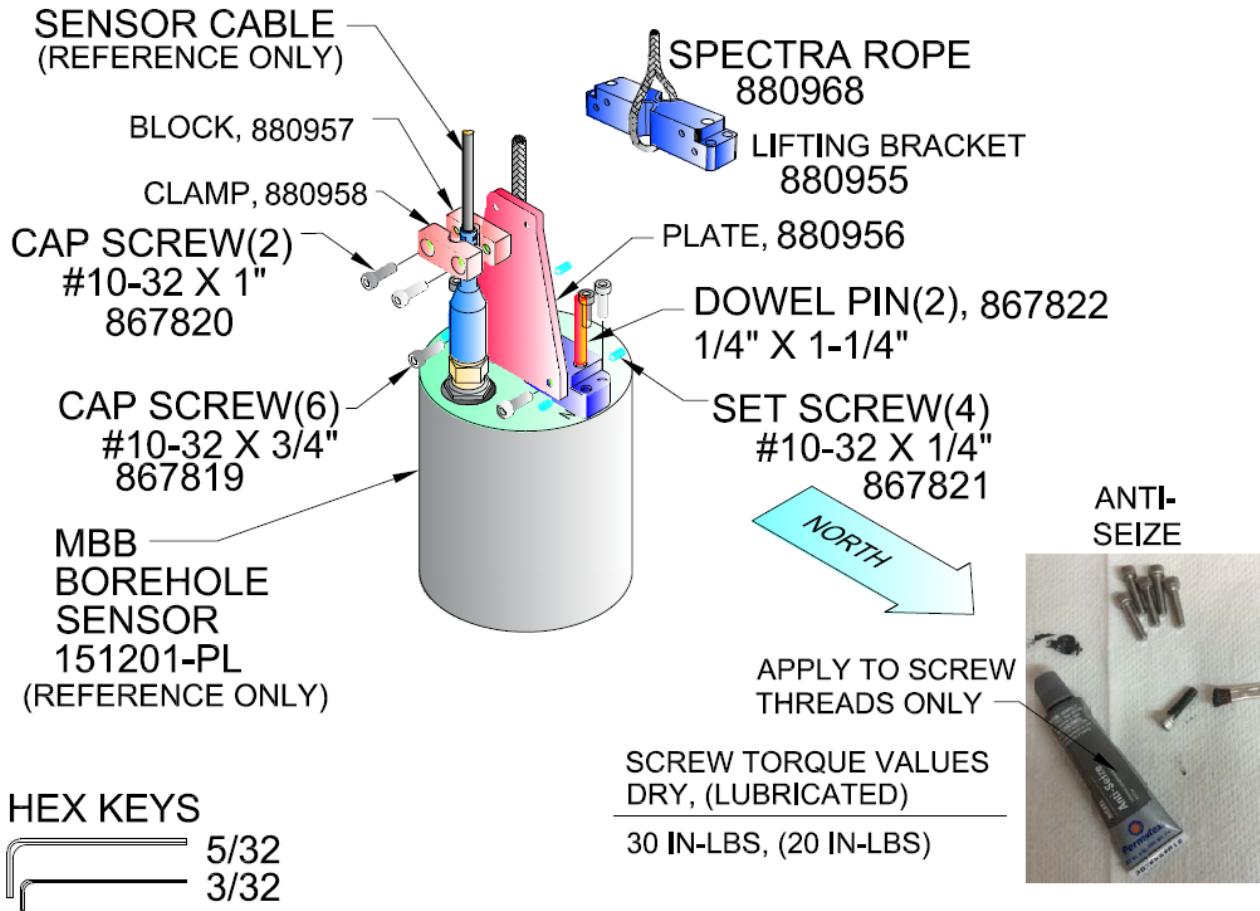

Figure 4. Posthole Kit
1. **Posthole Kit**, to include: block, clamp, plate, lifting bracket, rope and screws. This option is for safe sensor lowering into the borehole and safe pulling it out of the borehole. Please see Figure 4.